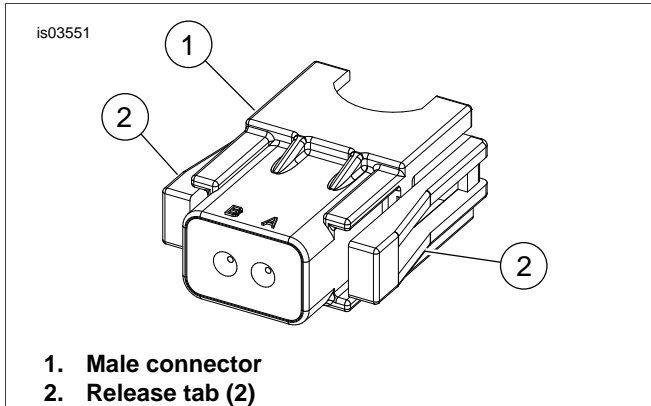

Figure 3. Connector With Two Release Tabs
- c. See Figure 3. *Kit 32136-07*, press release tabs to remove connector.